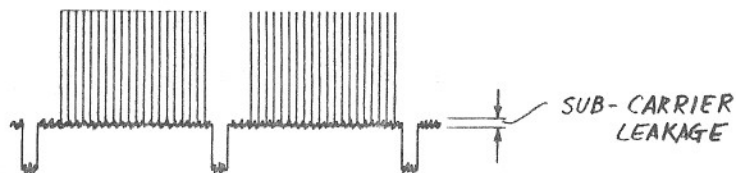

Figure-3
- c) Adjust VR701-704 to obtain the minimum sub-carrier leakage on the black level of composite video signal as shown in Figure-3. (VR701 only works when No.1 of COLOR BAR PROGRAM switch is ON)